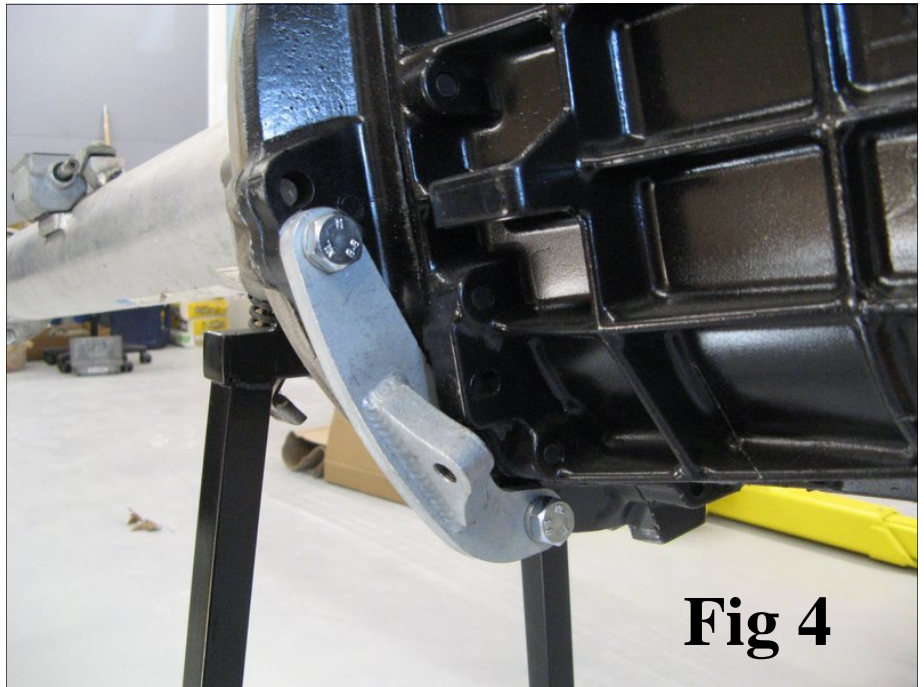

Fig 4
10. Remove lower 2 left side transmission bolts. (fig. 4)
11. Install the left side transmission bracket with the supplied 10mm x 55mm bolts and torque to 45 ft. lbs. (fig. 4)